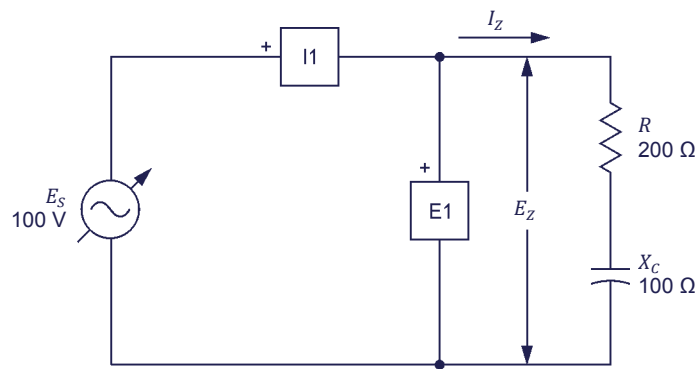

Figure 2-19. Series ac circuit containing a resistor and a capacitor.
32. Set up the circuit shown in Figure 2-19.